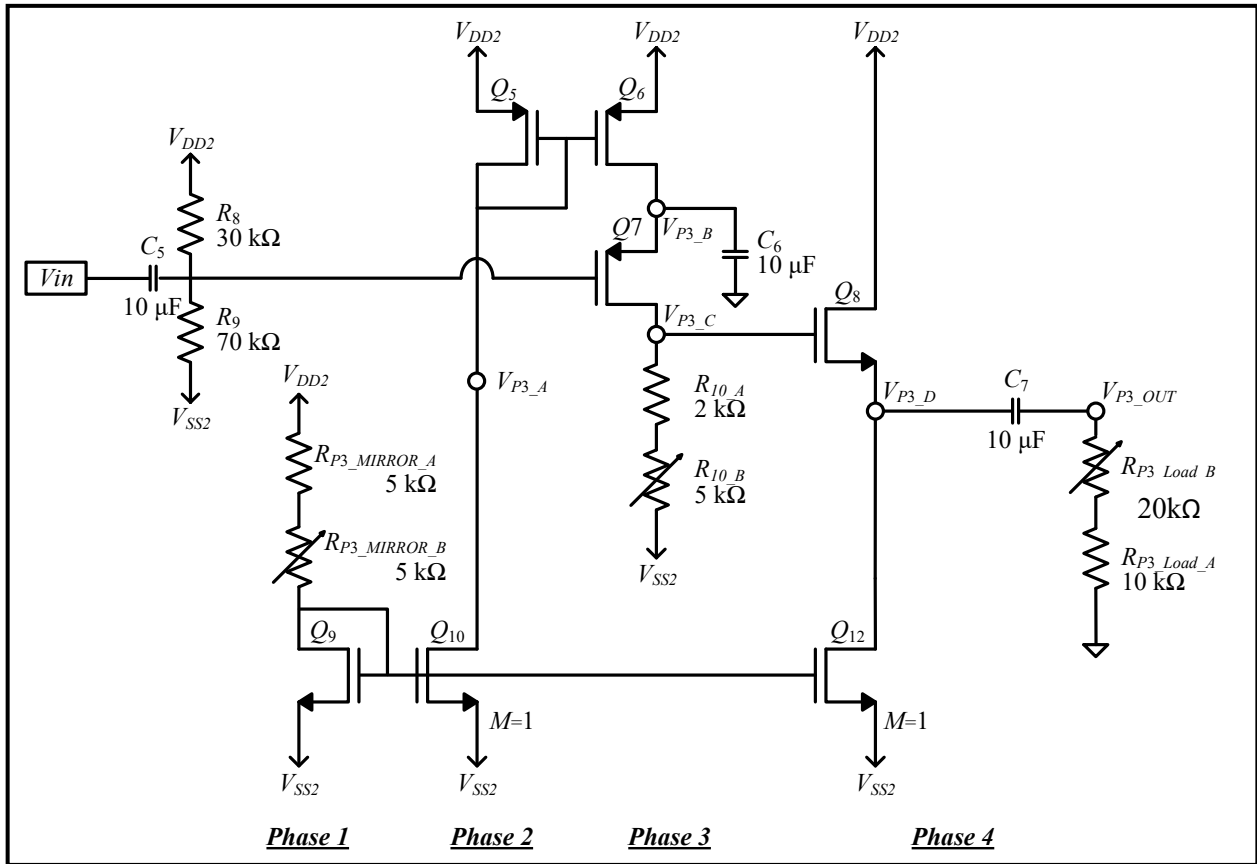

Fig. 6 Two-stage MOSFET amplifier
In this portion of the lab we will use the circuit shown in Fig. 6 to investigate the behavior of a two stage CMOS amplifier.
- E1 Build the circuit as shown in Fig 6 phase by phase. **Set all the variable resistors to 0 ohm.** Set  $V_{dd2} = 5V$ ,  $V_{SS2} = -5V$ . Connect the substrates of the PMOS to  $V_{dd2}$  and NMOS to  $V_{SS2}$ . Using a multimeter, measure the DC voltage at  $V_{P3\_B}$ ,  $V_{P3\_C}$ , and  $V_{P3\_D}$ . Based on your measurements, what is the operating mode for transistors  $Q_7$  and  $Q_8$ . Note that you need to calculate the gate voltage of  $Q_7$  based on Fig. 6. You should **build the circuit phase by phase** as shown in Fig 6. **Measure the DC operating point in each phase.** Ask your TA to check after you've done each phase. Note that  $Q_8$  is an NMOS.